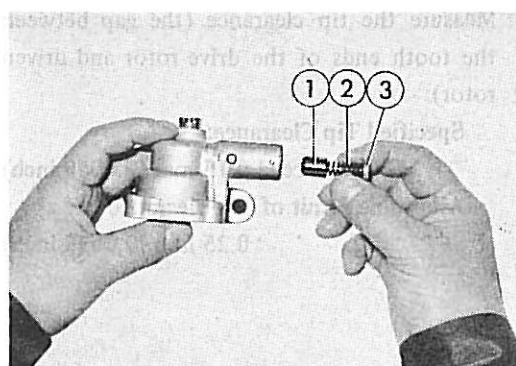

Fig. 6-19 Assembling Relief Valve
1. Relief valve ①, spring ② and spring retainer ③. Be very careful to install these parts in the correct direction, as shown in Fig. 6-19.